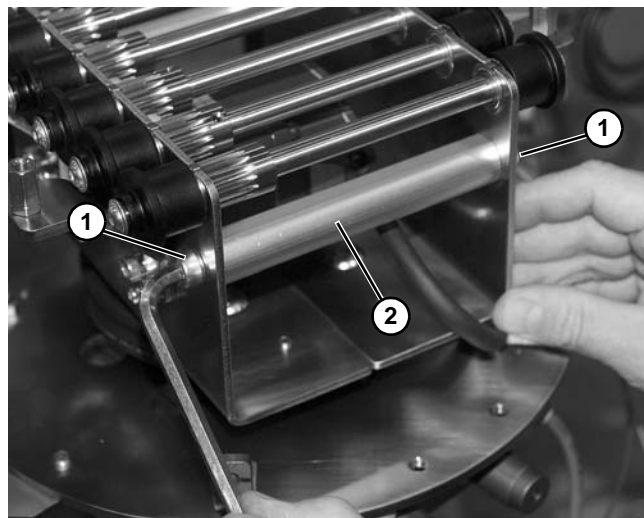

Figure 146
3. Remove two screws (**Figure 146, item 1**) holding support bar (**Figure 146, item 1**) onto turn and transfer assembly.